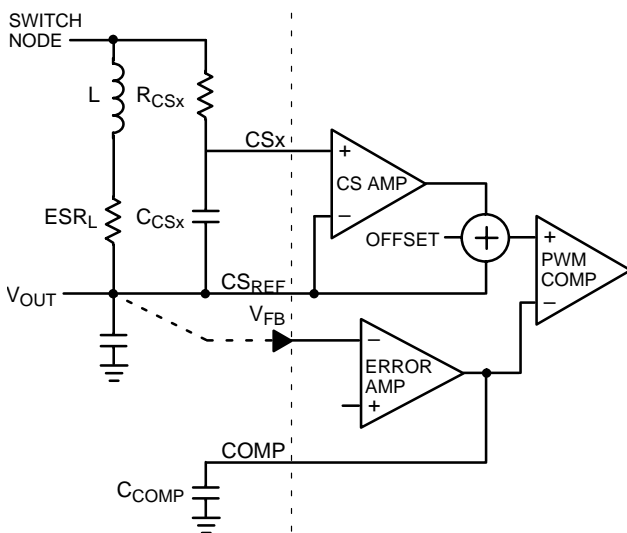

Figure 27.
The Enhanced  $V^2$  architecture measures and adjusts current in each phase. An additional input (CSx pin) provides current information for each output phase to the control loop as shown in Figure 27. Inductor current is measured across capacitor  $C_{CSx}$ . The voltage across this capacitor is equal to the product of the output current and the inductor ESR if these components are chosen such that  $(C_{CSx})(R_{CSx}) = (L)/ESR_L$ . This signal is buffered by the current sense amplifier (unity gain in the CS5305) and summed with an offset voltage before it is presented as input to non-inverting input of the PWM comparator. Inductor current provides the PWM ramp. As inductor current
Current can be sensed across the inductor as shown in Figure 27. The output inductor is designated L and the inductor's equivalent series resistance is designated  $ESR_L$ . In the ideal case, the values of  $R_{CSx}$  and  $C_{CSx}$  are chosen such that  $(L/ESR_L) = (R_{CSx})(C_{CSx})$ . If this criterion is met, the current sense signal will have the same shape as the inductor current, and the circuit can be analyzed as if a sense resistor with value equal to  $ESR_L$  was placed in series with the inductor. However, these components also determine the ramp signal that is used to prevent pulse skipping and duty cycle jitter. Choosing  $(R_{CSx})(C_{CSx}) < (L/ESR_L)$  will result in the AC portion of the current sense signal being scaled more than the DC portion. This results in a larger ramp signal, but the current signal will overshoot during transients. This will affect transient response, adaptive voltage positioning and current limit. The COMP pin voltage will overshoot along with the current signal in order to maintain the output voltage. The COMP voltage will